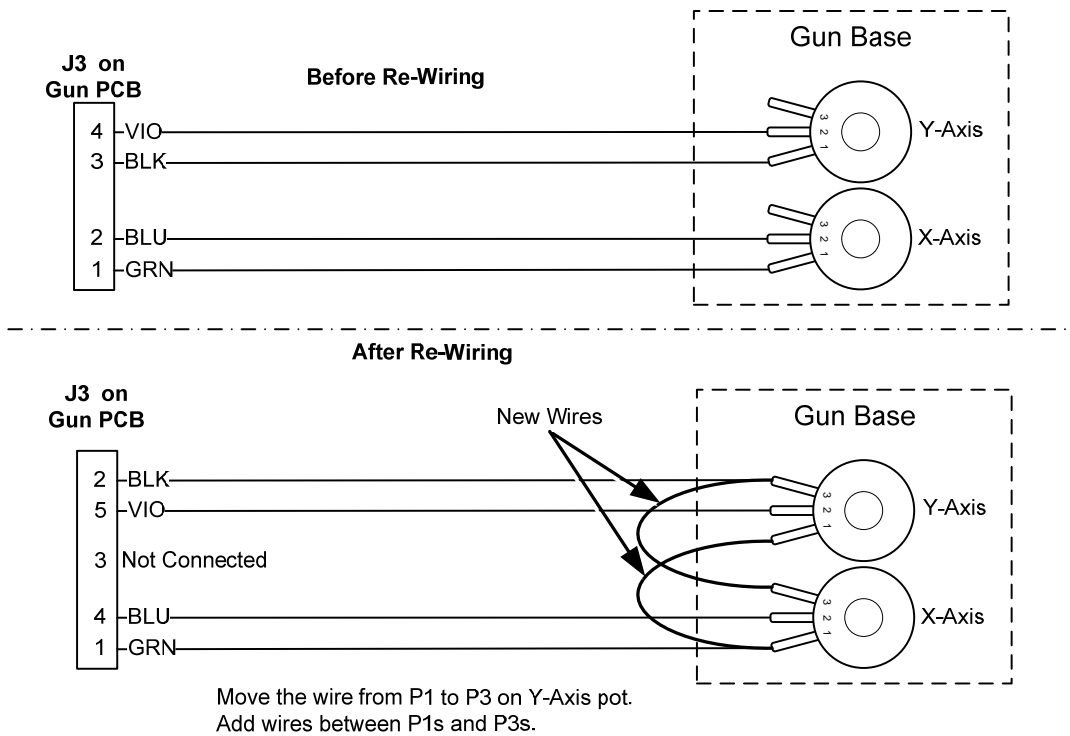

Figure 4. Pot Wiring Before & After Modifications
5. Insert each pin in its new location; make sure the loop is as shown below. Wire placement is as follows (see also Figure 4):